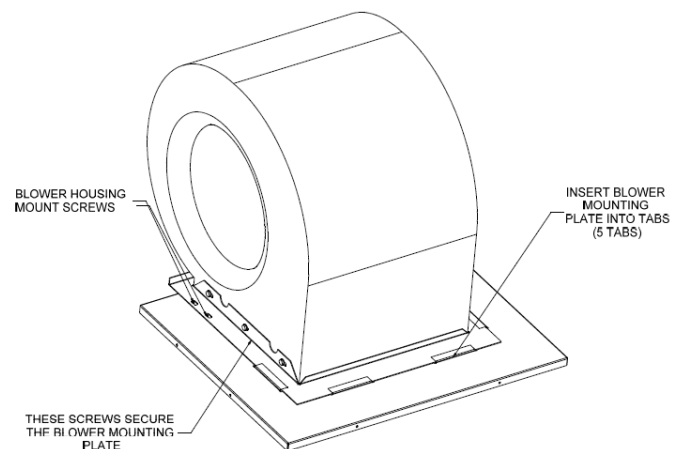

Figure 8: Blower Assembly and Mounting Screw Location
4. Remove the screw on the right side of the control box cover and remove the control box cover. Refer to Figure 8.